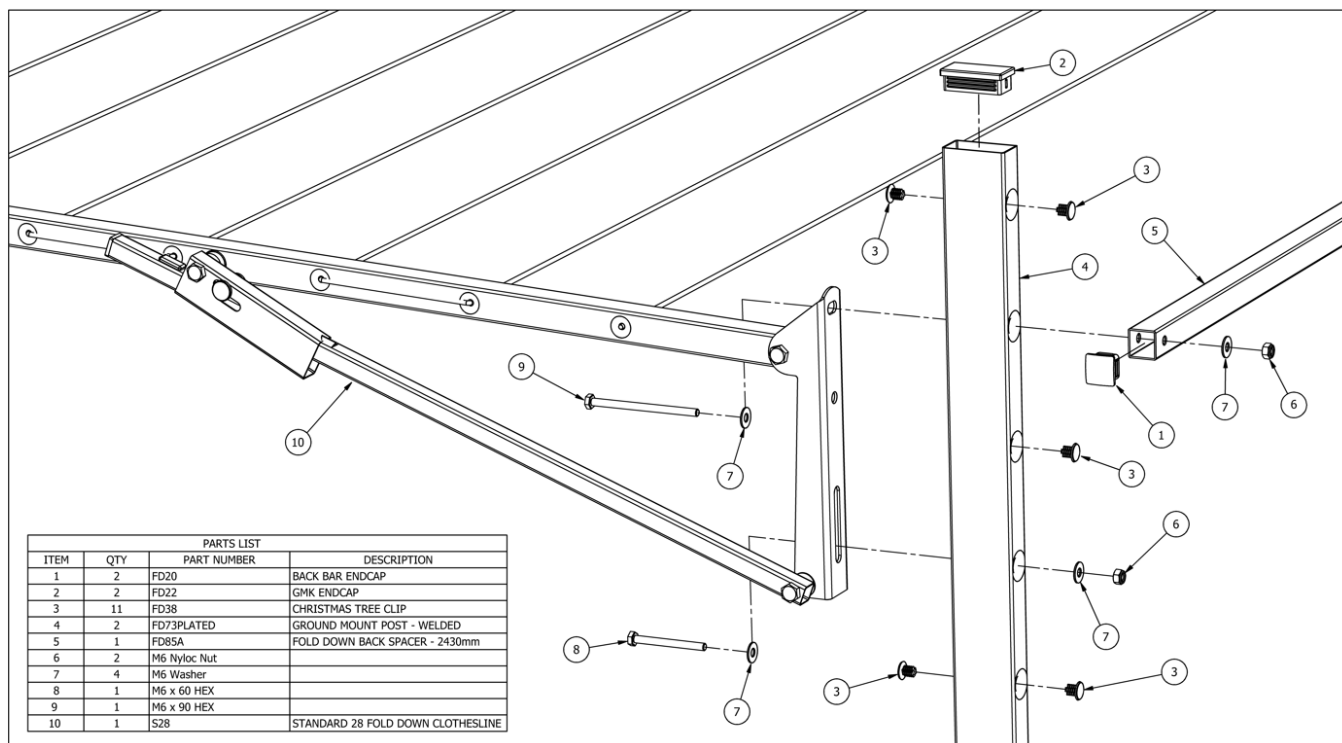

Fig.6. Installation to GMK.
4. Install Clothesline to GMK as shown (Figs 6 and 7)